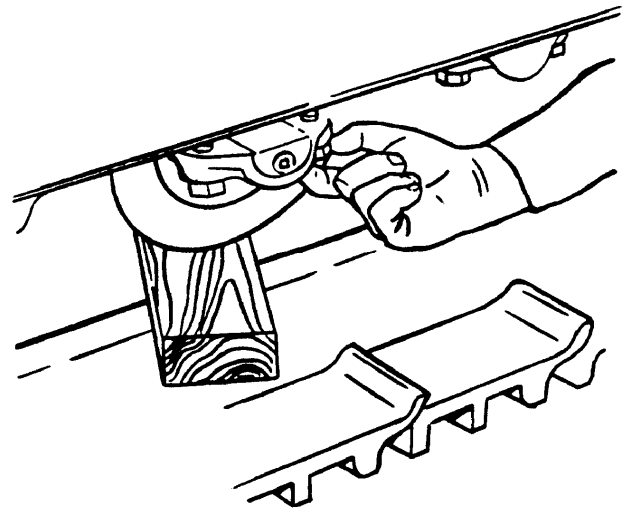

Fig. 14.29. Installing Roller
2. Install the roller assembly in the track frame so that the end of the shaft for the lubricating plug is to the outside of the dozer (Fig. 14.29).